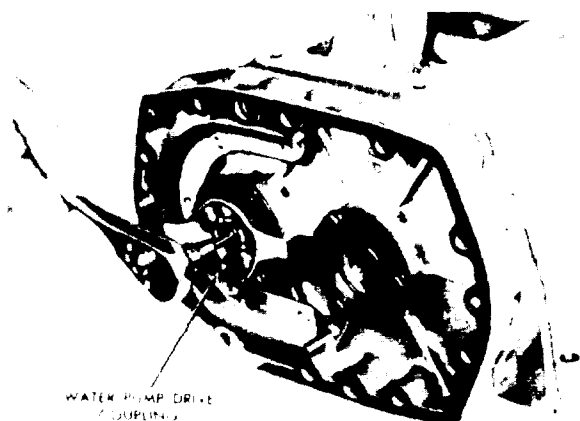

Figure 11D-5. Removing Water Pump Drive
2. Place a clean folded shop towel between the rotors and a towel between the rotor and the housing to prevent the rotors from turning. Then, remove the bolt securing the water pump drive coupling to the blower rotor shaft as shown in Figure 11D-5.